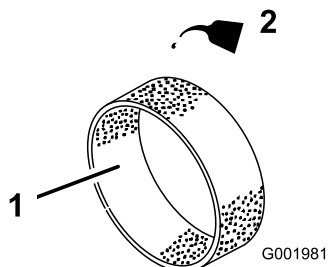

Figure 44
- Put one or two ounces of oil on the element (Figure 44).